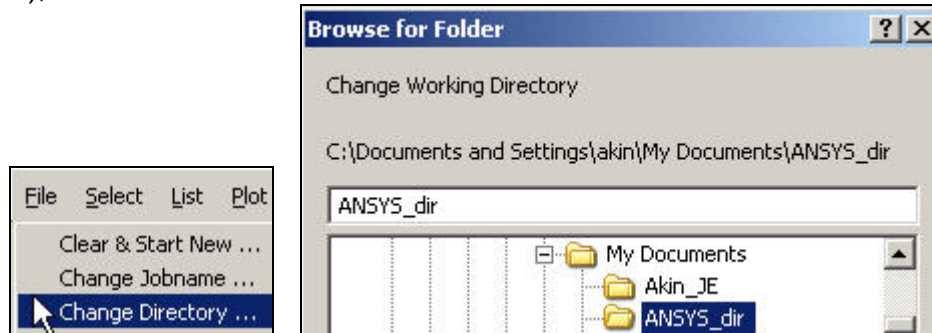

Figure 2 Establish a directory for the analysis files
2. **Browse for Folder**→**Change Working Directory**, pick your directory (ANSYS_dir in Figure 2), **OK**.